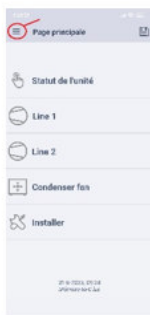

Fig.11
- On the main page, open (Fig. 11) "☰" and then "Parameter List" (Fig. 12)